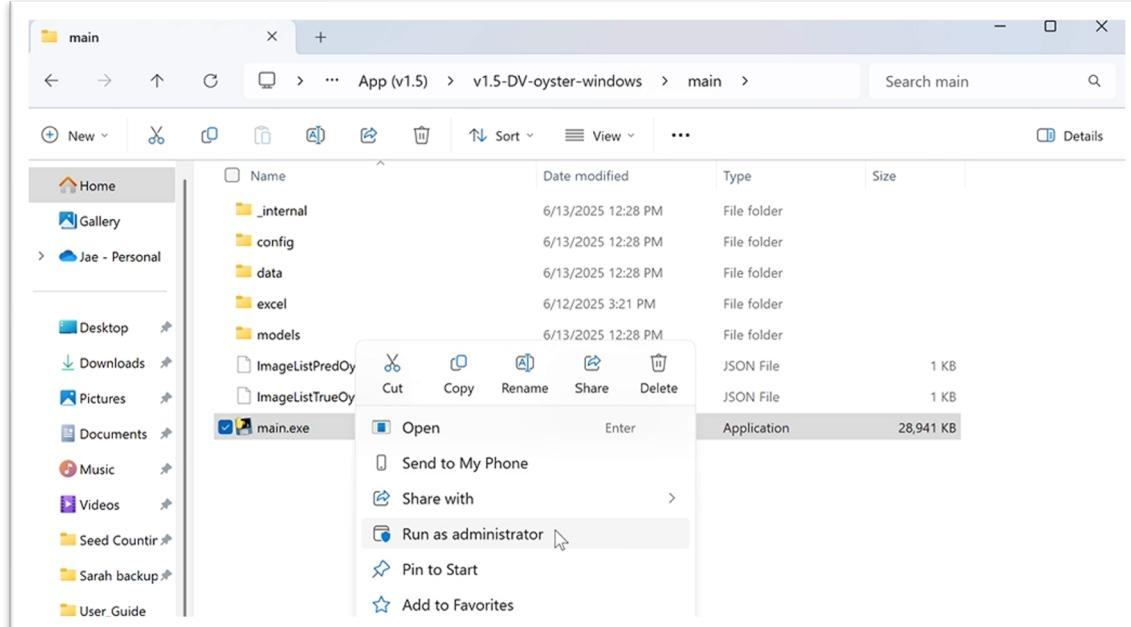

Figure 1.6. Running the software as an administrator.
7. Go back to the folder you saved the “v1.5-DV-oyster-windows.zip” file in. There should now be a folder called “v1.5-DV-oyster-windows”. Open that folder and then open the “main” folder within. Inside you should see the files shown Figure 1.6. Create a new folder called “images” in the main folder to load future subsample images. Inside the images folder, create a new folder called “annotations” to store the future images the software has analyzed.
8. Right click on “main.exe” and click “Run as administrator” (Figure 1.6).